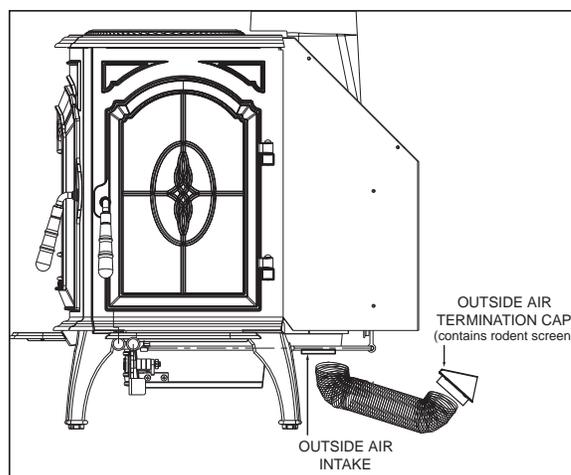

Figure 15.2
4. Mount the flex flange (with pipe fitting extending out), over the intake air opening at the rear of the stove using the four mounting screws supplied with the kit. **Figure 15.2.**